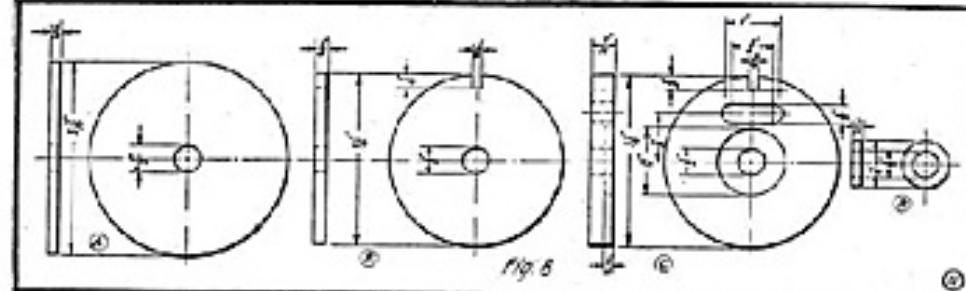

Fig. 8. End Discs of Secondary Coil.
Fig. 8 gives the size of these pieces. In turning them up, bore the $1/2$ -inch hole in the center first; then turn them on a wooden face plate which has a little mandrel to fit tightly in the hole. If the hole is not exactly in the center of the pieces the secondary will not be concentric with the primary. Take (A) first. After shellacking and rubbing it down fasten it in the left-hand end of the primary tube with strong glue. To fit properly in the box the end of the tube must be at right angles with its axis.
Now, when the case is put together, except the top (look at Figs. 2 and 3) to see where to fasten the slide tube. First put the primary, secondary and small end piece (D, Fig. 8) on the tube, with the coils in the center. Do not fasten the front on yet. Spread cold glue thinly on the primary end piece and the piece (D). Press them against the ends of the case, estimating the distances shown on the drawings. Quickly, before the glue can set, put two or three screws in the front—just enough to hold it in position. Take the rod which is to go through the screw eyes X on the end of the secondary and put it through the tube of the coupling adjust-